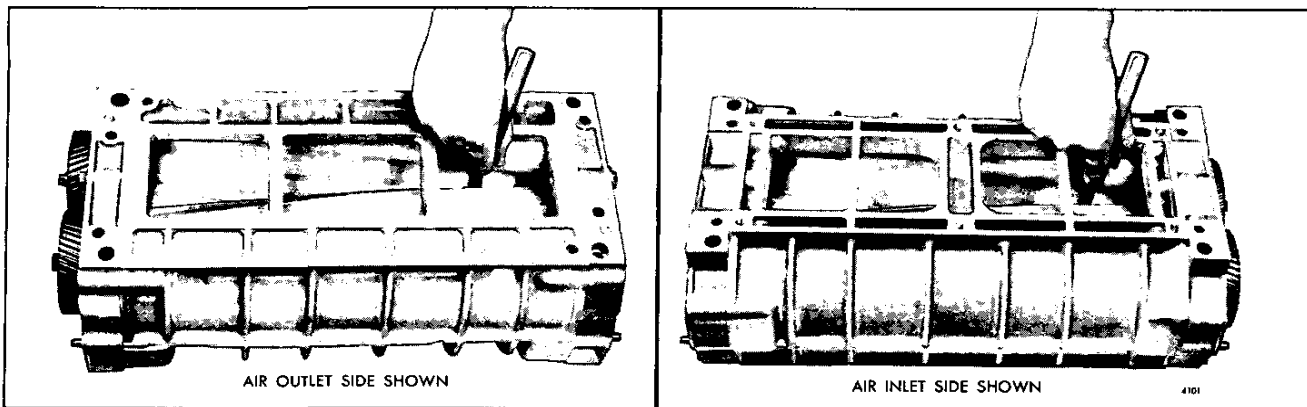

Fig. 18 – Measuring Clearance Between Blower Rotor Lobes
4. The clearance between the rotor lobes may be checked with 1/2" wide feeler gages in the manner shown in Fig. 18. When measuring clearances of more than .005", laminated feeler gages that are made up of .002", .003" or .005" feeler stock are more practical and suitable than a single feeler gage. Clearances should be measured from both the inlet and outlet sides of the blower.
- a. Time the rotors to pass an .008" feeler gage at the closest point between the *trailing* edge of the right-hand helix rotor and the *leading* edge of the left-hand helix rotor ("CC" clearance) measured from both the inlet and outlet sides as shown in Figs. 18 and 21.